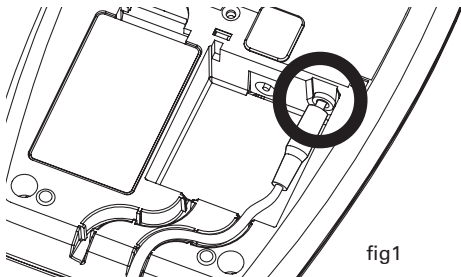

fig1
1. Plug the Vibrating Pad connector into the Strobe (as shown in fig1). Route the wires through the wire guide.